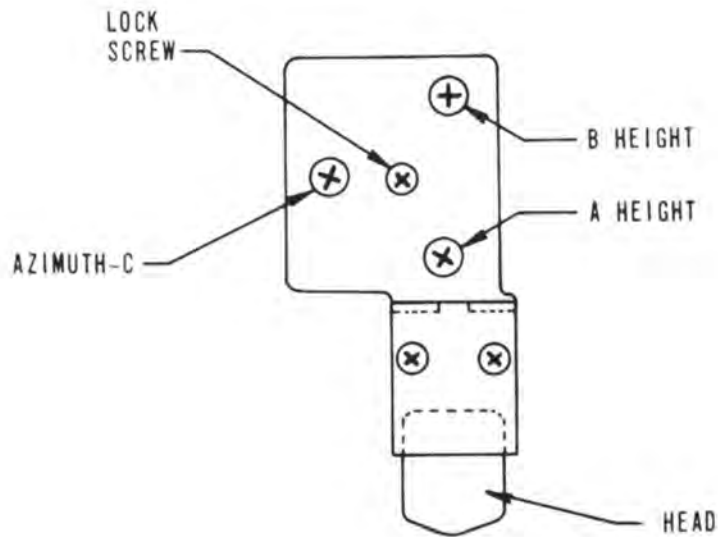

Figure 5-4. Head Adjustment
a. Remove the adjustment cover plate. Turn the lockscrew (figure 5-4) counterclockwise until the screw is well above the lock position (maximum down).
e. While holding the mylar in this position, alternately adjust screws A and B (figure 5-4) to position the tracks with respect to the tape. Screw A should be adjusted a small amount, then screw B should be adjusted an equal amount in the same direction. This procedure should be repeated until the correct height is obtained. Proper height is that at which the top of the upper pole piece is at the same level as the top of the tape, and the bottom of the lower pole piece is at the same level as the bottom of the tape.
b. While monitoring the output of the PGM amplifier by connecting a meter at the rear of the machine at J2-5 and J2-6, adjust screw C (figure 5-4) of the playback head for maximum output level.
d. Reconnect the right playback channel to the oscilloscope horizontal input. Adjust screw C (figure 5-4) to obtain 0° phase shift at all frequencies (pattern C, figure 5-6).